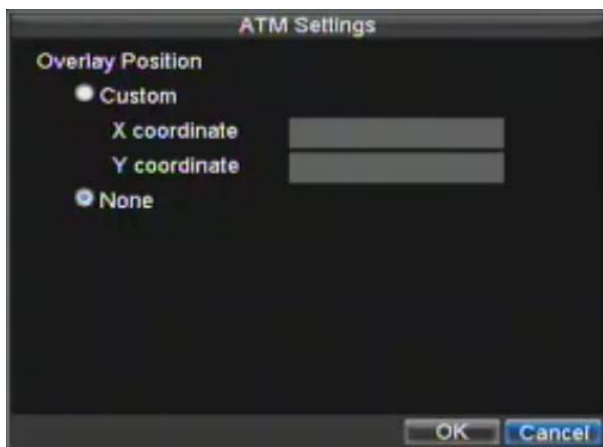

Figure 6. Overlay Position Menu
8. Set the **Overlay Position** of the main type: This menu, shown as Figure 6, is used for setting the overlay position of the card No., with the X/Y coordinate configurable. If not required, select **None** to disable this feature.